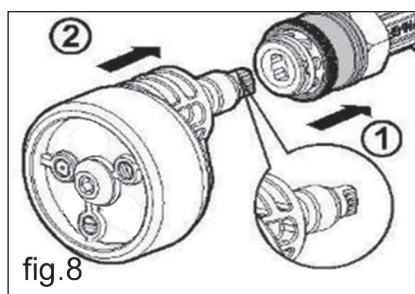
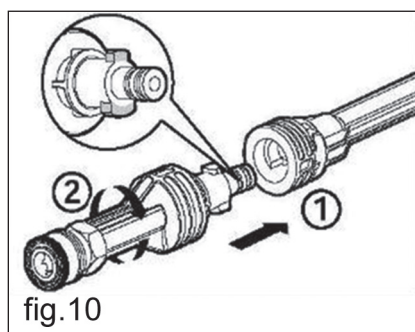

fig.8
fig.10
3. Pull backward on the brass chuck ring (fig.8, 1), insert the nozzle adapter with multi-spray nozzle into the short wand (fig.8, 2) and release the chuck ring.
5. Following that, add the short wand (fig.10) before finally inserting the nozzle adapter with multi-spray nozzle into the short wand as in fig 8 above.